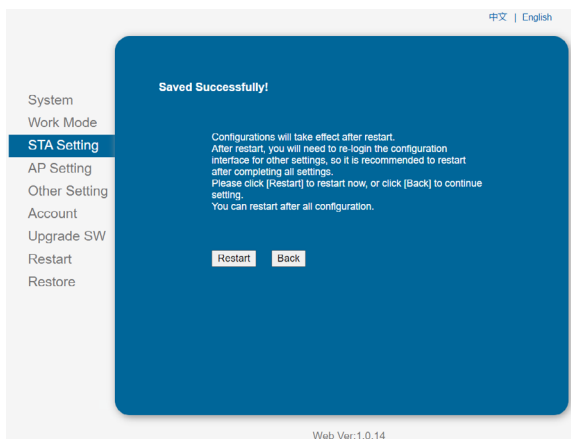

Fig. 55. WiFi setup saved.
- The system will show the message "Saved Successfully". Click on "Restart" to complete the WiFi setup. See Fig. 55.